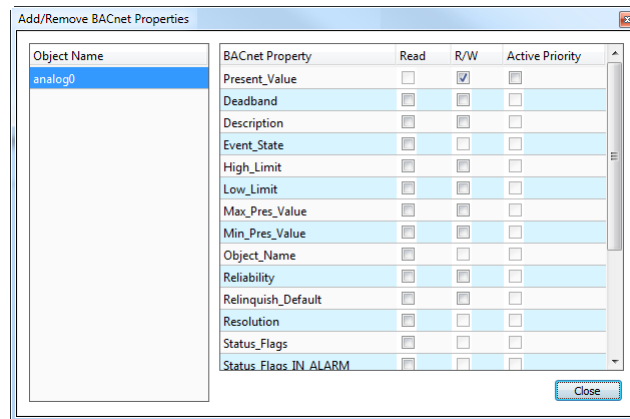

Figure 124: Dialog for adding/removing BACnet properties
2. Right-click on the data point and select **Add/Remove BACnet properties ...** from the context menu. The dialog appears as shown in Figure 124.